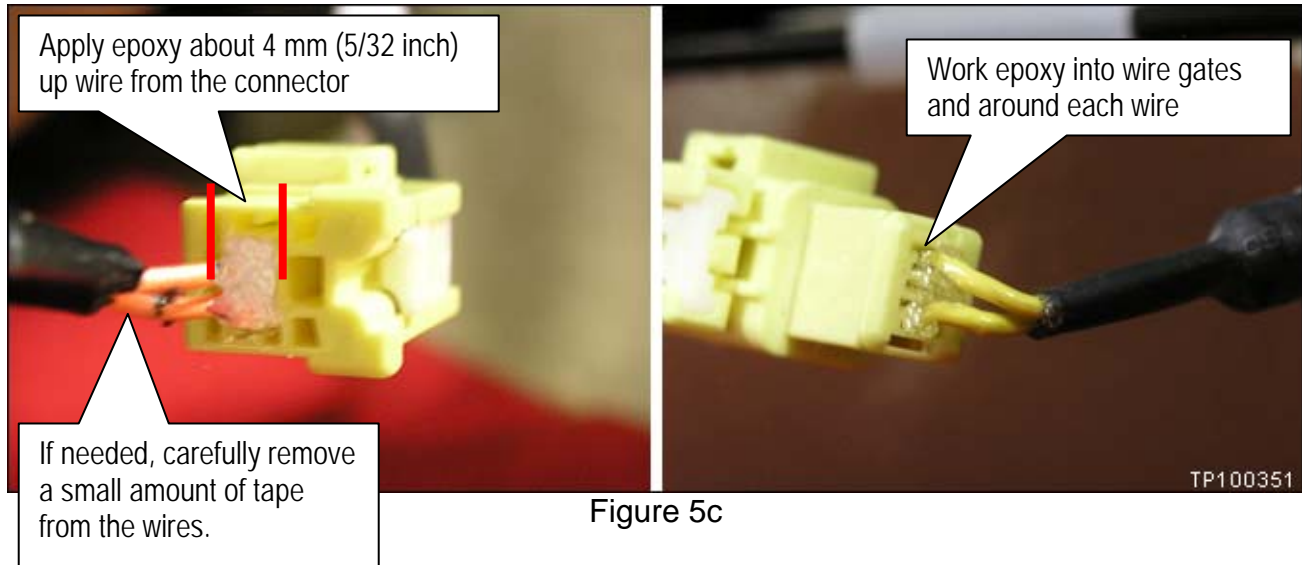

Figure 5c
7. Apply the epoxy to the back side (wire gates) of the side air bag harness connector (see Figure 5c).